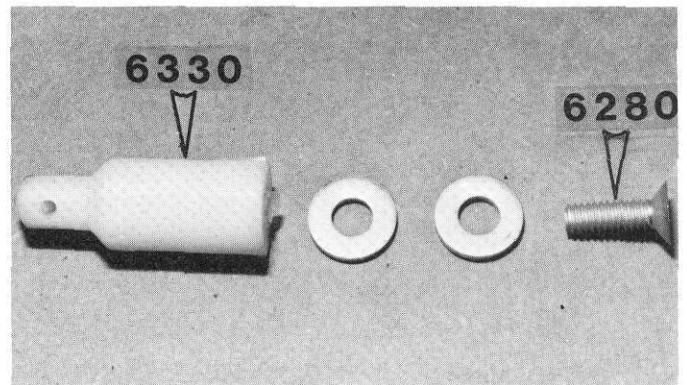

Fig. 3
□ **Fig. 3** In Bag #6-5, take one #6330 body mount, 2 washers and one short screw. (The long screw is used to extend the body mounts for other body styles.)